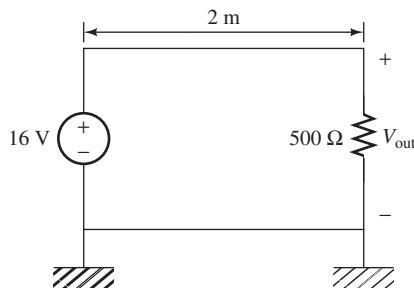

FIGURE P11.46 Circuit for Problem 11.46.
- 11.46** (A)* Determine the voltage output, V_{out} , shown in Figure P11.46 if the ground of the voltage source and ground of the load are connected. The material of the wire that connects the devices in the circuit is copper with the resistance per length of $0.54 \Omega/\text{m}$.